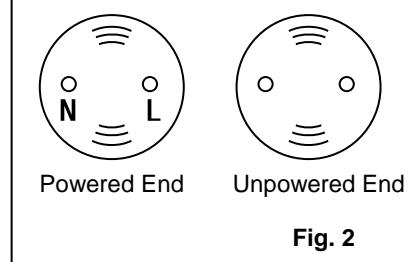

Fig. 2
2. Select the desired installation location. Be sure that a standard 120 V – 60 Hz outlet is located within reach of the fixture's power cord. Install two hooks (not included) on the desired location of the ceiling. Be sure to install the ceiling hooks no more than fixture length apart. Install the fixture to the ceiling by looping the remaining ends of each SUPPORT CHAIN (3) to each ceiling-installed hook.
3. To install the **tube lamp**, guide the pins on one end of the lamp into one **socket**. Make sure that the powered end of the **tube** is placed on the powered end of the fixture. (Fig. 2 and 3) Guide the other end of the **tube** into the opposite **socket**. Rotate the **tube** 90° (1/4 turn) in either direction until seated.